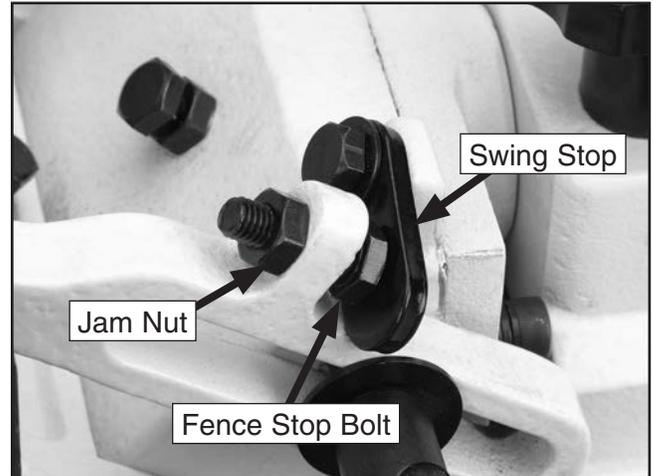

Figure 74. 90° swing stop engaged.
1. Flip the 90° swing stop into the position shown in **Figure 74**.
3. Loosen the jam nut on the 90° fence stop bolt (**Figure 74**).